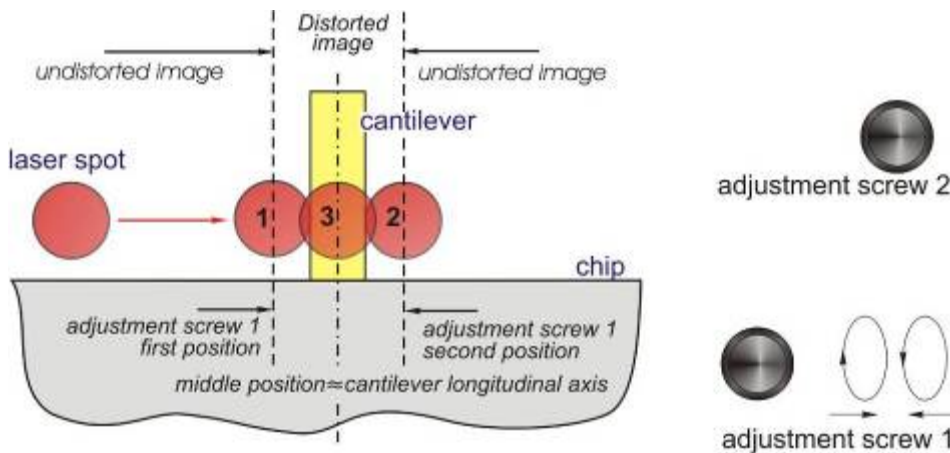
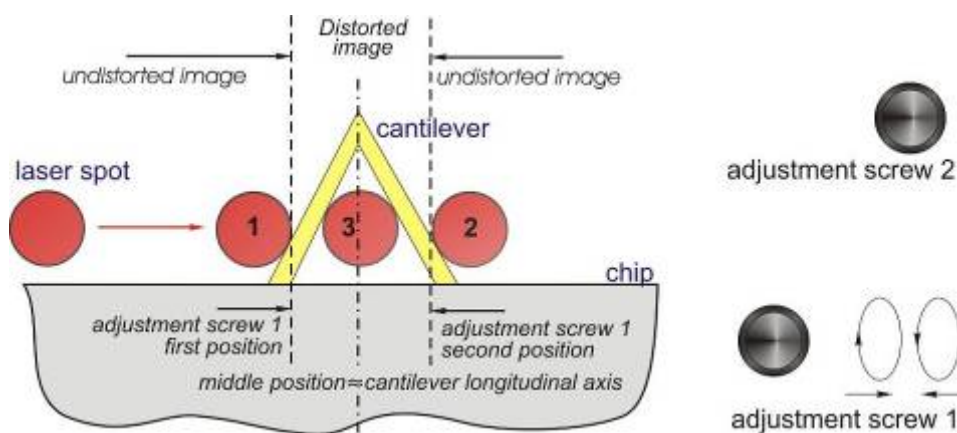

Fig. 2-92
Fig. 2-93
3. If the spot is positioned near the probe holder edge, it should be moved to the chip front edge using adjustment screws 1 and 2 as shown in Fig. 2-93.
- *Turning adjustment screw 1, move the spot laterally along the edge until the laser image on the screen starts to distort, i.e. when the beam starts to hit the chip left edge. This step is illustrated in Fig. 2-93 as a travel from location 1 into location 2. Stop turning the screw when the laser image is slightly distorted;*
4. If the laser beam passes near the chip front edge, it should be steered onto the cantilever longitudinal axis (Fig. 2-92, Fig. 2-93) by moving the beam laterally with adjustment screw 1 (detailed procedure is given below).
- In the process of travel, the laser image on the paper screen will start to distort at the certain position of adjustment screw 1. This indicates that the laser beam starts to impinge on the cantilever as shown schematically in Fig. 2-92, Fig. 2-93. Memorize this first position of the screw;
- Next, turn adjustment screw 1 into the middle position between the first and the second positions, i.e approx. in the middle of "distortion" range (Fig. 2-92, Fig. 2-93);
- Thus, the laser spot is positioned onto the cantilever longitudinal axis (Fig. 2-92, Fig. 2-93).